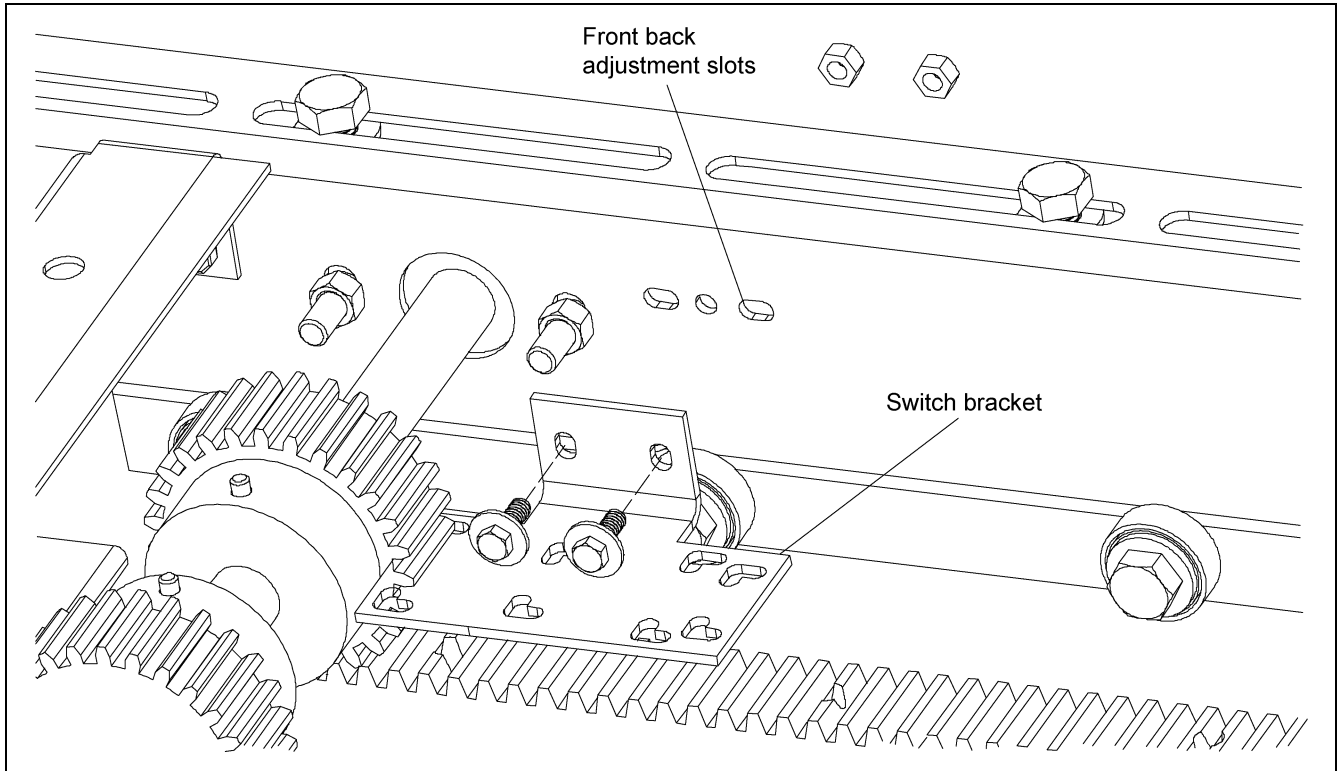
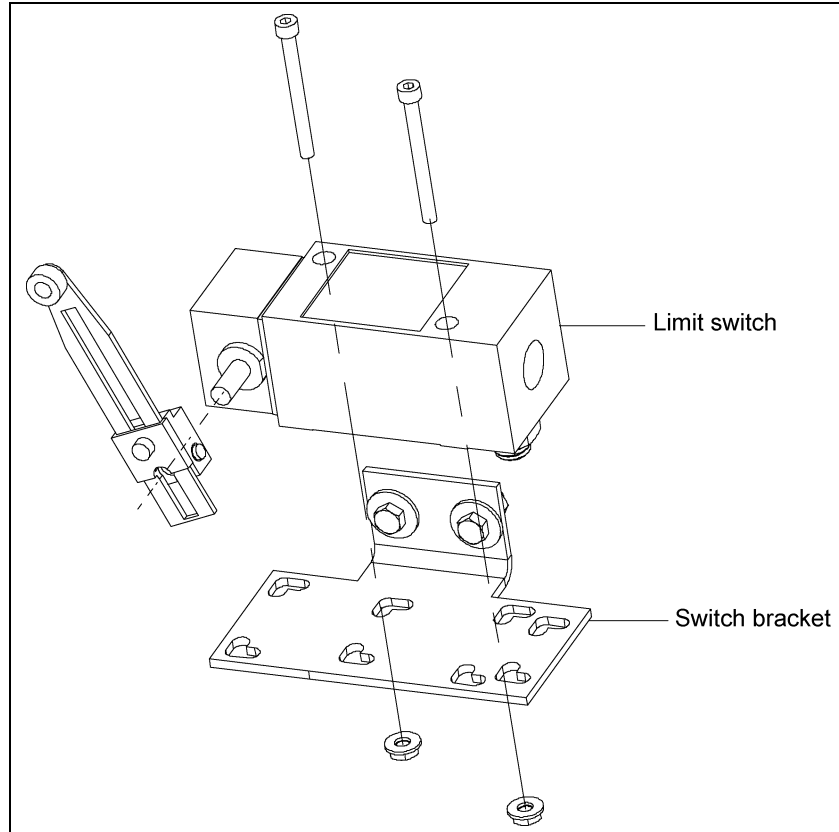

Figure 3E
Figure 3F
2. Attach the switch brackets to the inside of the gate as shown using hardware provided. (*See Figure 3E on Page 12.*) Attach limit switch to the bracket as shown *in Figure 3F on Page 12.*